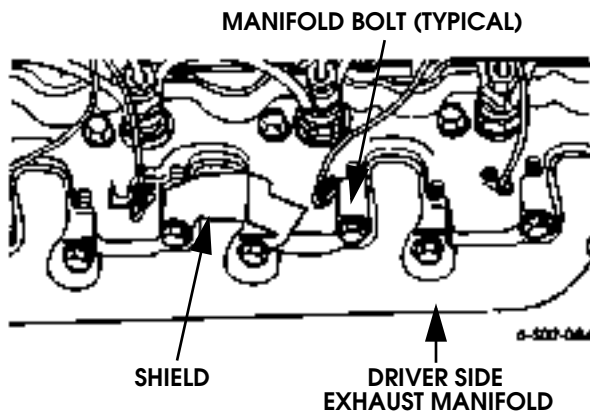

Figure 2-68: Left Side Exhaust Manifold Removal
3. Remove left side manifold attaching bolts and remove manifold and gasket. Discard gasket (Figure 2-68).